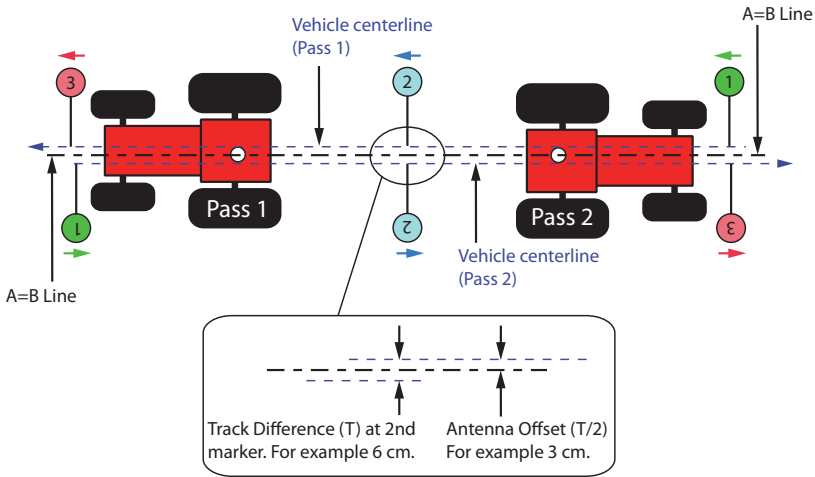

Figure 3-3: Determining the antenna offset (example $6/2 = 3$ cm left)
2. Maintaining a speed of 5 kph (3 mph) engage steering and let the system steer you along the guideline for at least 100 m. When the crosstrack has stabilized (0-1), place at least three marks along the A=B line and on the centerline of the vehicle (the hitch pin point). See Pass 1 in Figure 3-3.
3. Perform a keyhole turn, re-engage the steering, and let the system steer you down the same wayline. When the crosstrack is stabilized (0-1), place more marks close to those placed on the first pass. See Pass 2 in Figure 3-3.
4. Measure the distance between corresponding markers. In Figure 3-3 the centerline difference is 6 cm.